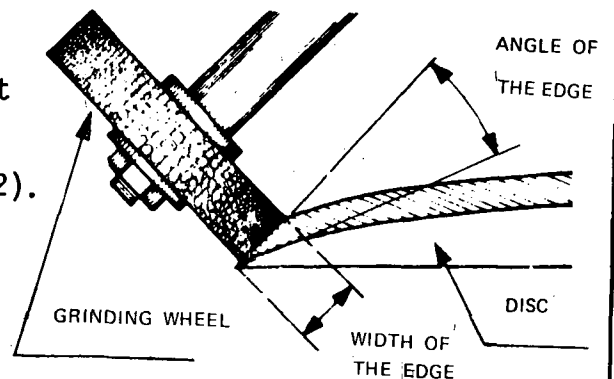

Fig. 2
- b) Place the grinder so that the grinding wheel keeps the cutting angle (Fig. 2).